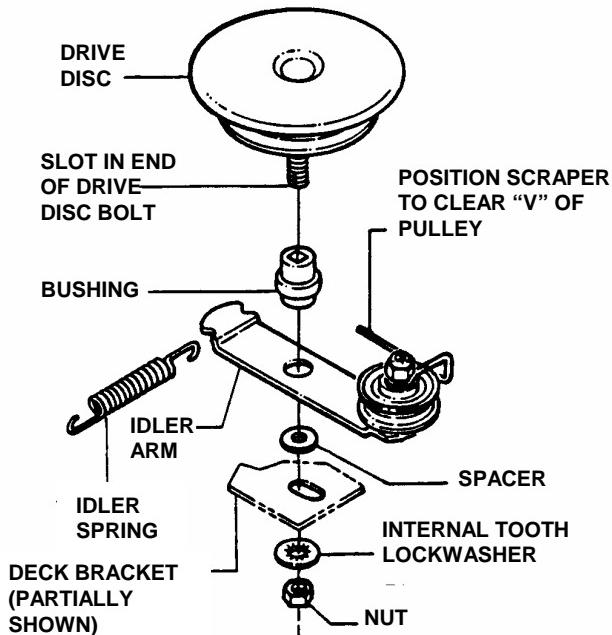

FIGURE 4.17
- Hold the slotted end of the drive disc bolt with a screwdriver and remove the nut and internal tooth lock washer. See Figure 4.17.
- Loop one end of new belt over engine pulley and insert the other end through slot in deck. See Figure 4.17.